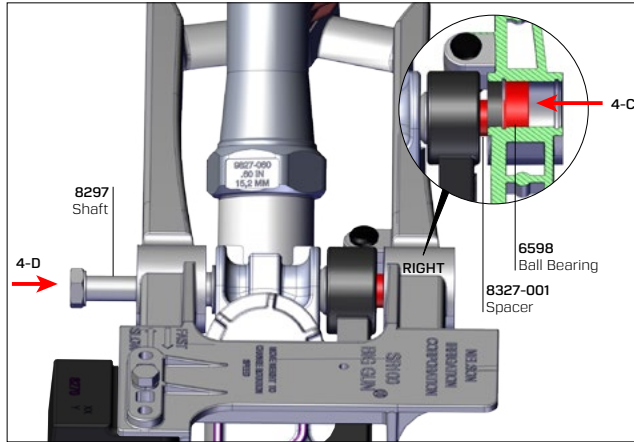

Fig. 20.
- C. With finger pressure, push **#6598** ball bearing and **#8327-001** spacer of RIGHT bearing hub to left and into position (see Fig. 20).